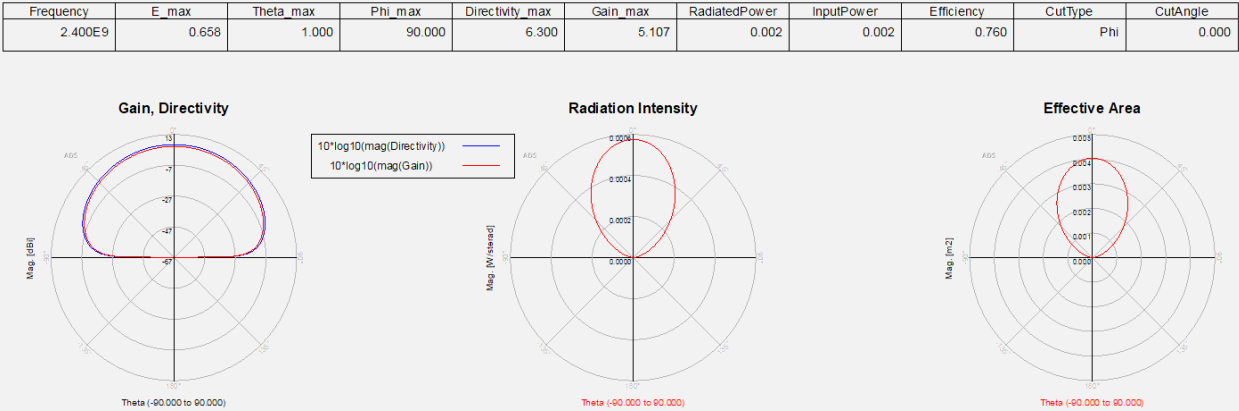

Figure 36. Antenna radiation patterns shown in data display
- The results, shown in Figure 36, will open in a new window.